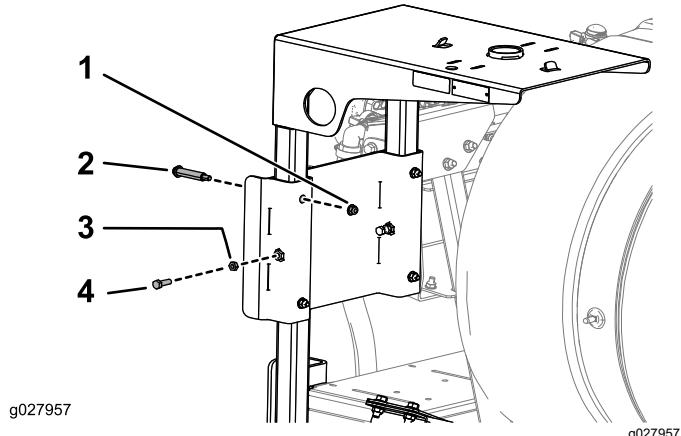

Figure 14
- Insert the reel shelf frame into the slots onto the reel-shelf support bracket and secure the shelf using 4 shoulder bolts, 4 flange nuts (5/16-18 inch), 2 bolts (5/16-18 x 1 inch), and 2 jam nuts (5/16-18 inch) as shown in Figure 14.